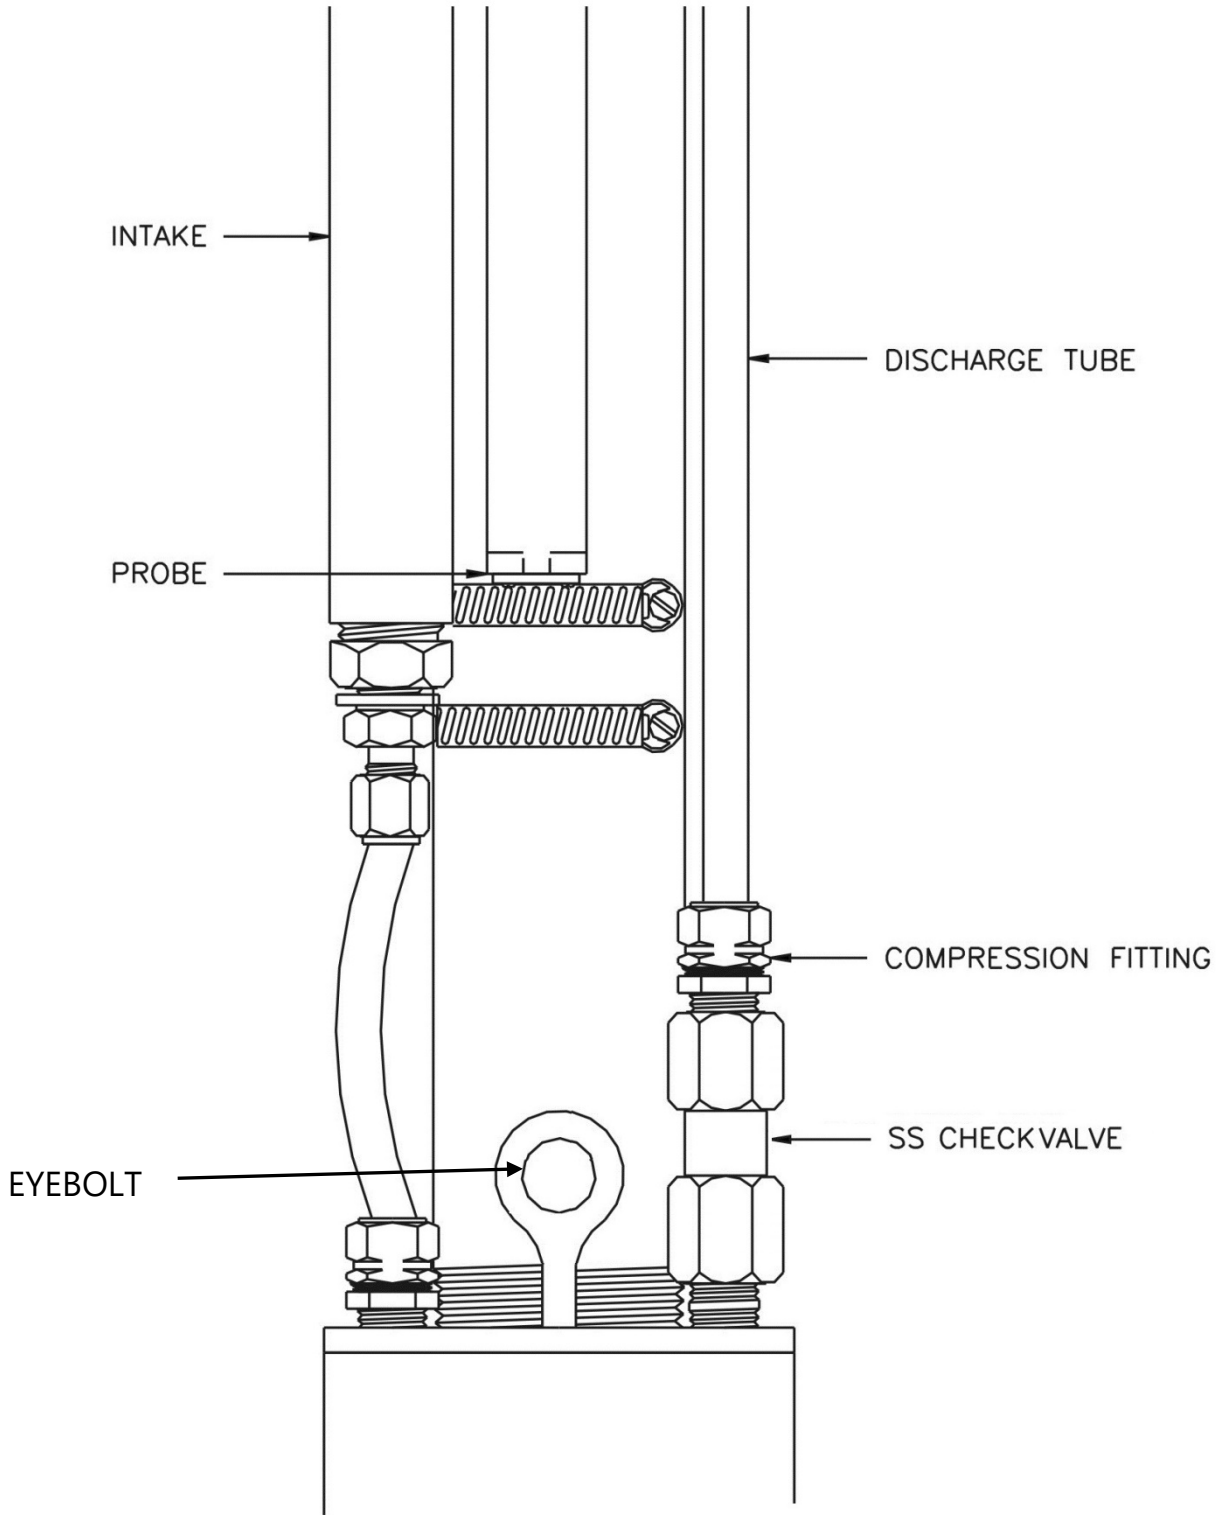

Figure 2-13: Location of Discharge Hose
1. Attach one end of the 3/8" nylon product hose to the compression fitting on the check valve (see Figure 2-13.)